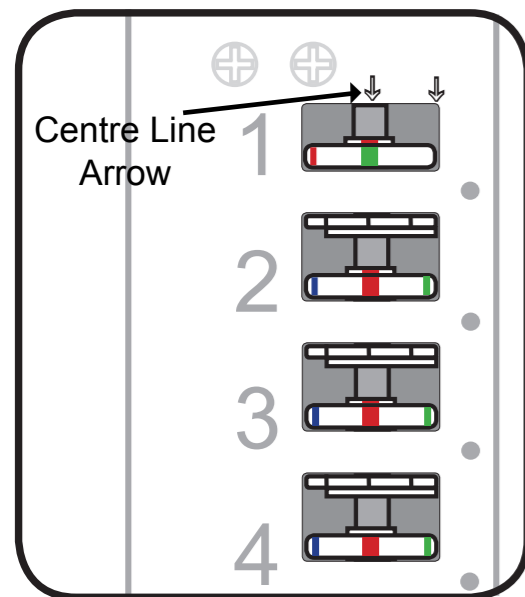

Fig.4
3. With the coding chamber reset you will see that the coding disks are set to what the keypad is currently coded to. If for instance the unit is coded to 11234; the number 1 disk will have the green marker of the coding disk lined up with the centre line arrow on the cover plate. The number 2, 3 and 4 will have the red marker of the coding disks lined up with the centre line arrow (as per fig.4). All the other coding disks will have the blue line in alignment with the centre line arrow.